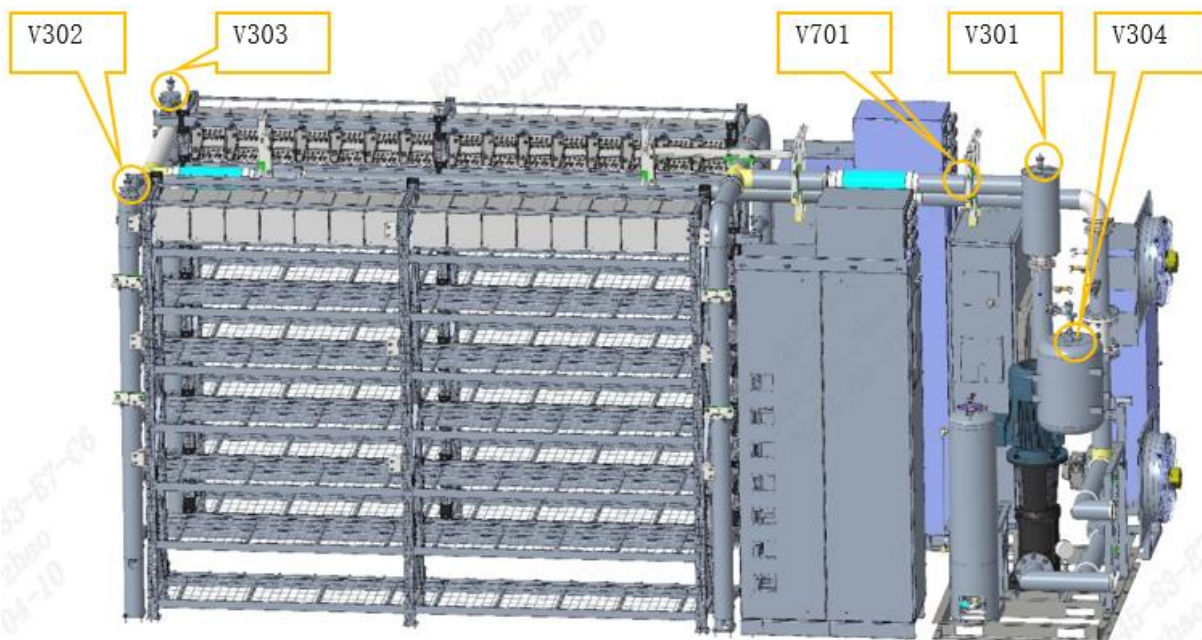

Figure 7-3 Location of the exhaust valve in container system
f) Figure 7-3 Location of the exhaust valve in container system